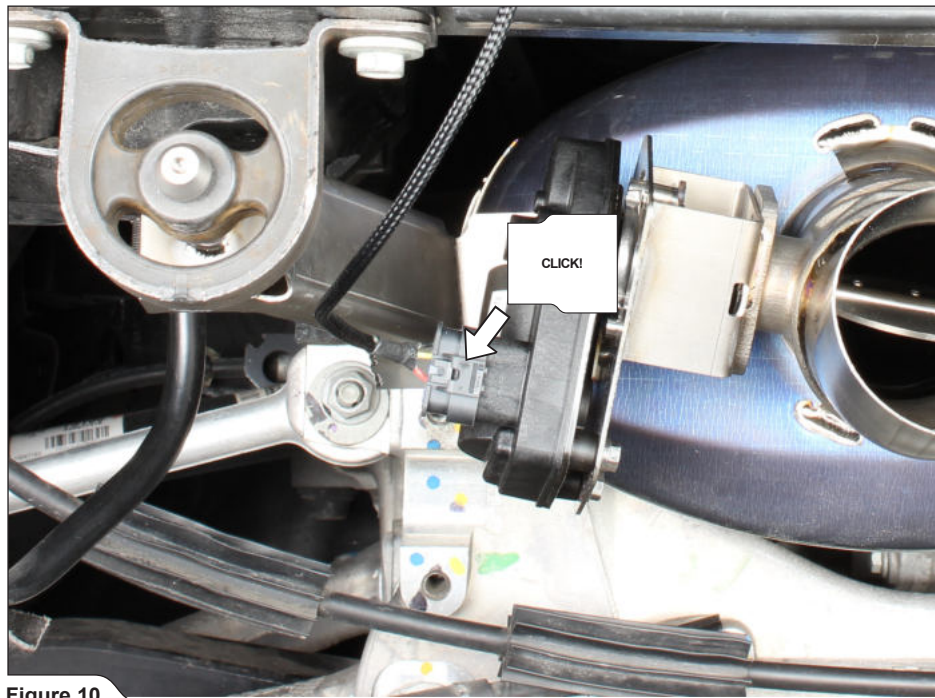

Figure 10
9. Connect the exhaust valve servos' connectors on both sides (**Figure 10**).